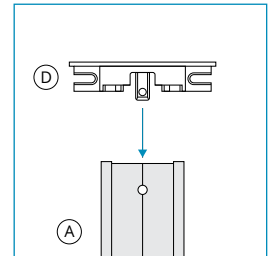

Figure 2
3. Slide Rail End Mounting Clips (D) onto the top and bottom of assembled Rails (Figure 2). Use of these clips is optional, but recommended. These clips will assist in mounting to floors, walls, and ceilings. They also assist in holding the TRAX Array in place when mounting vertically.